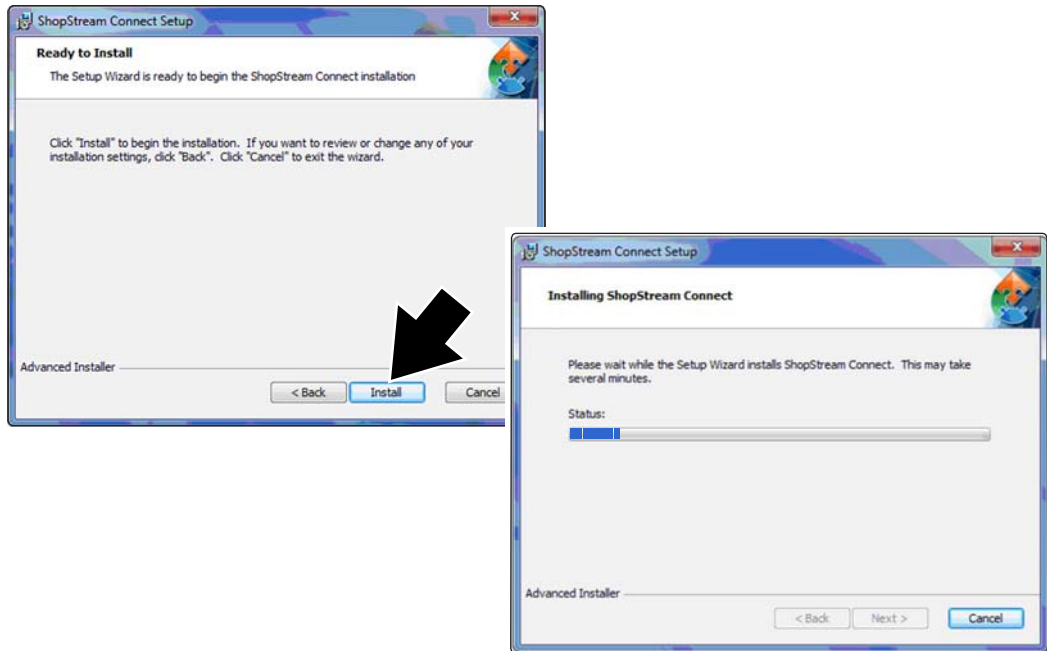

Figure 4-4 Typical install and status screens
5. Select **Install** to begin installation (Figure 4-4).